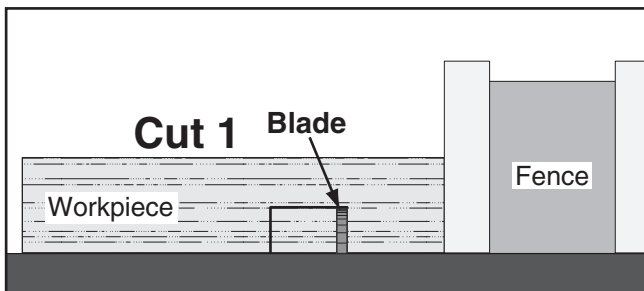

Figure 124. First cut for a single-blade dado.
4. Align workpiece with blade to cut one of dado sides, as shown in **Figure 124**, then align rip fence with workpiece.